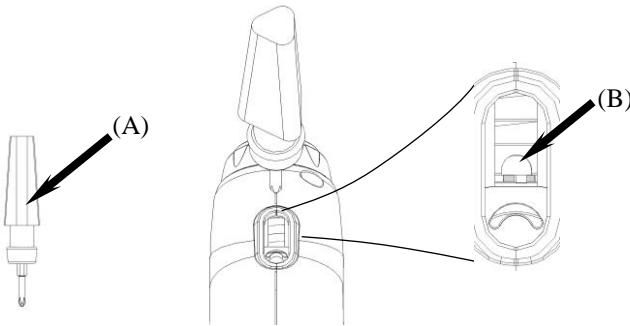

Fig.3
2. Use the attached screwdriver (A) insert into the circle hole (B). (see Fig.3).